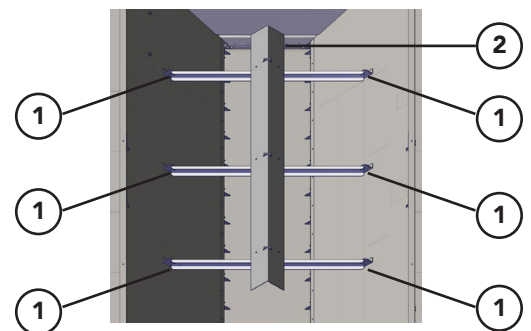

Figure 1 - Inverted V
1. Figure 1 - Remove Hardware (1) and Inverted "V" (2).